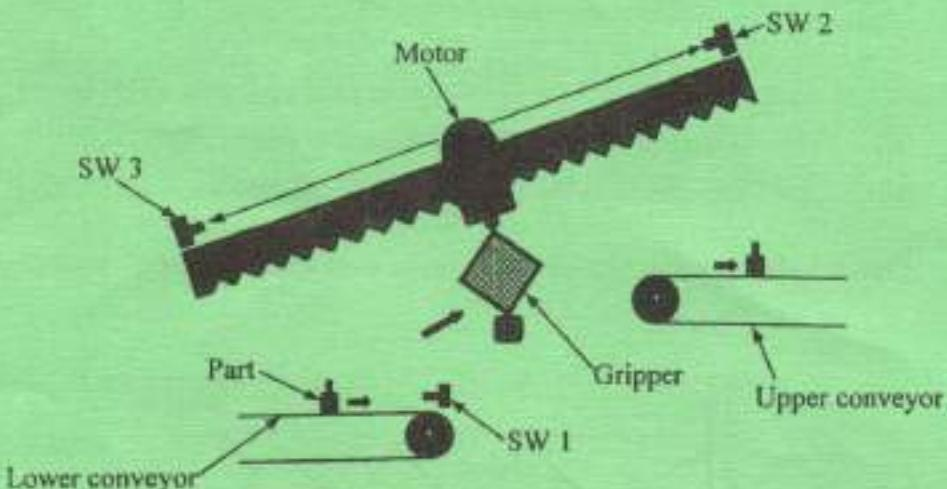

Fig. 3
- (c) Figure 3 shows a pick-and-place robot that picks up parts from one conveyer belt and places them on another belt. When a part moving along the lower conveyer belt activates switch SW₁, a solenoid-powered gripper picks the part and carries it towards the upper conveyer belt. When the gripper reaches switch SW₂, it releases the part and moves back to pick another part. When the gripper reaches switch SW₃, it halts and waits for the next part to start the cycle all over again. Draw a relay logic ladder diagram to control this operation.